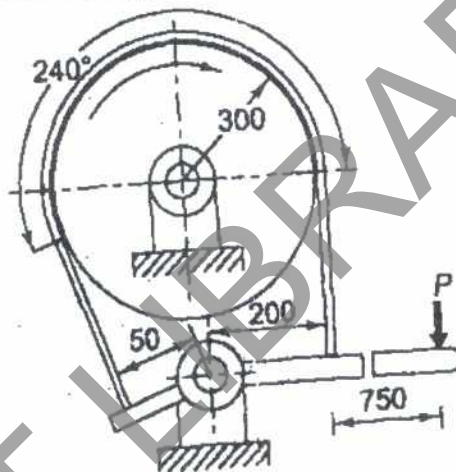

Fig. Q6 (b)
- b. A differential band brake is shown in Fig. Q6 (b). The width and the thickness of the steel band are 100mm and 3mm respectively and the maximum tensile stress in the band is  $50 \text{ N/mm}^2$ . The coefficient of friction between the friction lining and the brake drum is 0.25. Calculate: